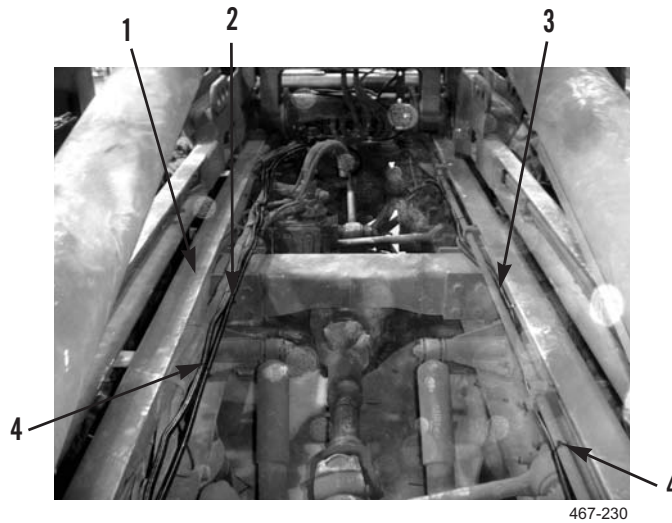

Figure 24. Wiring Harnesses Installation.
1. Route middle frame and hook arm sensor harnesses (Figure 24, Item 3) along frame (Figure 24, Item 1) and install new tiedown straps (Figure 24, Item 4) as required.
2. Route twistlock harnesses (Figure 24, Item 2) along frame (Figure 24, Item 1) and install new tiedown straps (Figure 24, Item 4) as required.